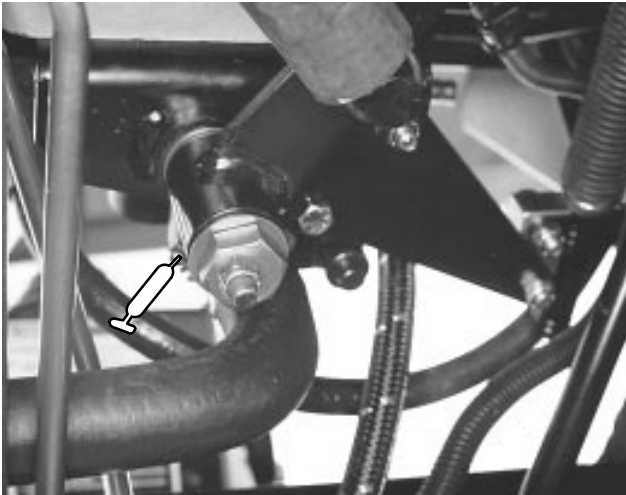
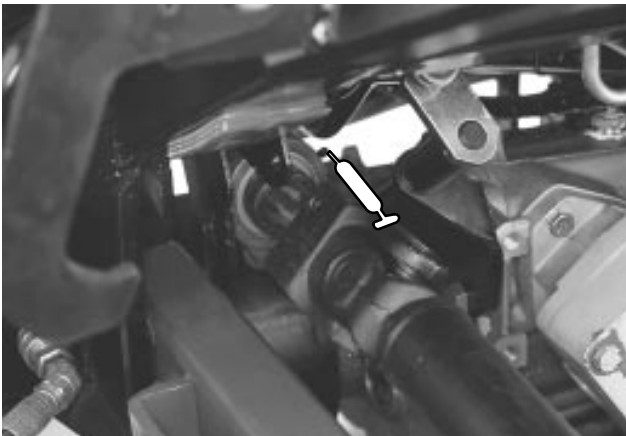

Figure 28
Figure 29
1. The grease fittings that must be lubricated are: Lift arm pivot (2), lift cylinder (4), brake arm pivots (2) (Fig. 23); brake pivot (1), brake pivots (2) (Fig. 24); traction pedal pivot (1) (Fig. 25); engine to pump drive shaft (2) (Fig. 26 & 27); traction adjuster (1) (Fig. 28); P.T.O. Bearing (Fig. 29).